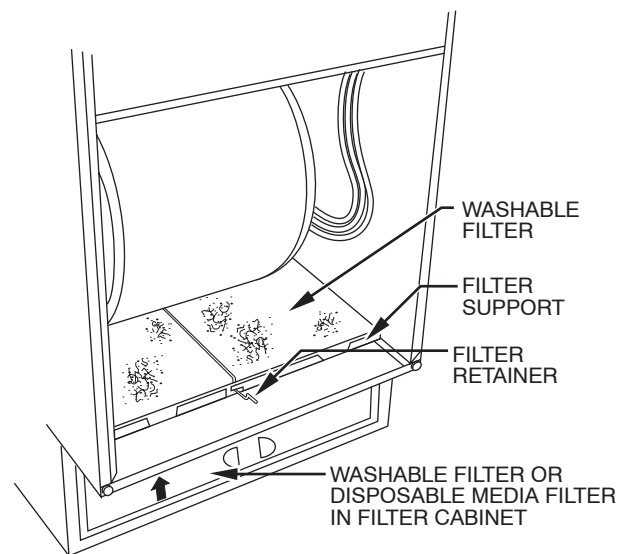

Fig. 3 – Bottom Filter Arrangement
3. Release filter retainer wire. (See Fig. 3 or 4.)
NOTE: Filters shown in Fig. 3 and 4 can be in furnace blower compartment or in filter cabinet, but not in both.